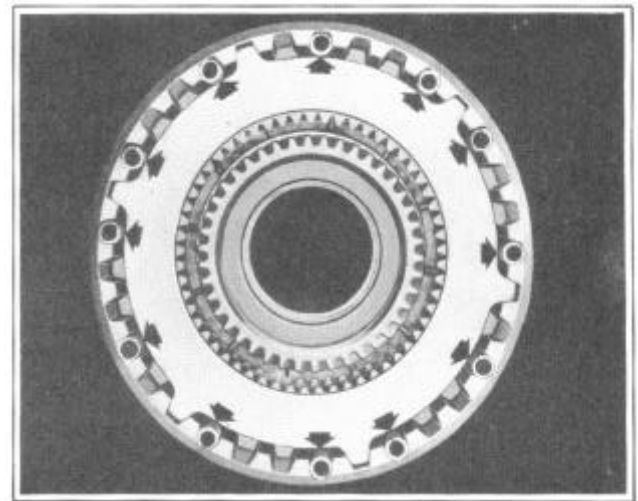

FIGURE 123
8. Install the twelve clutch retractor springs (27) and space them in the grooves indicated by arrows, Figure 123.